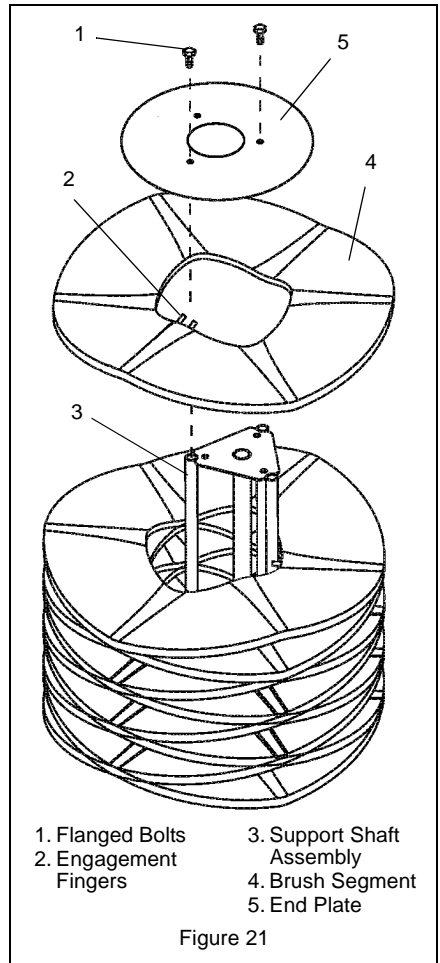

Figure 21
6. Remove three flanged bolts securing end plate to support shaft assembly. Remove the end plate (Figure 21).
8. Install end plate on support shaft assembly and secure with three flanged head bolts (Figure 21).